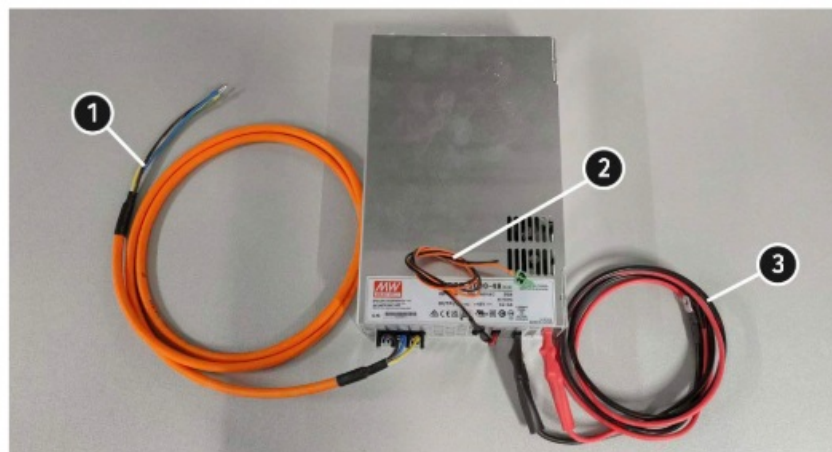
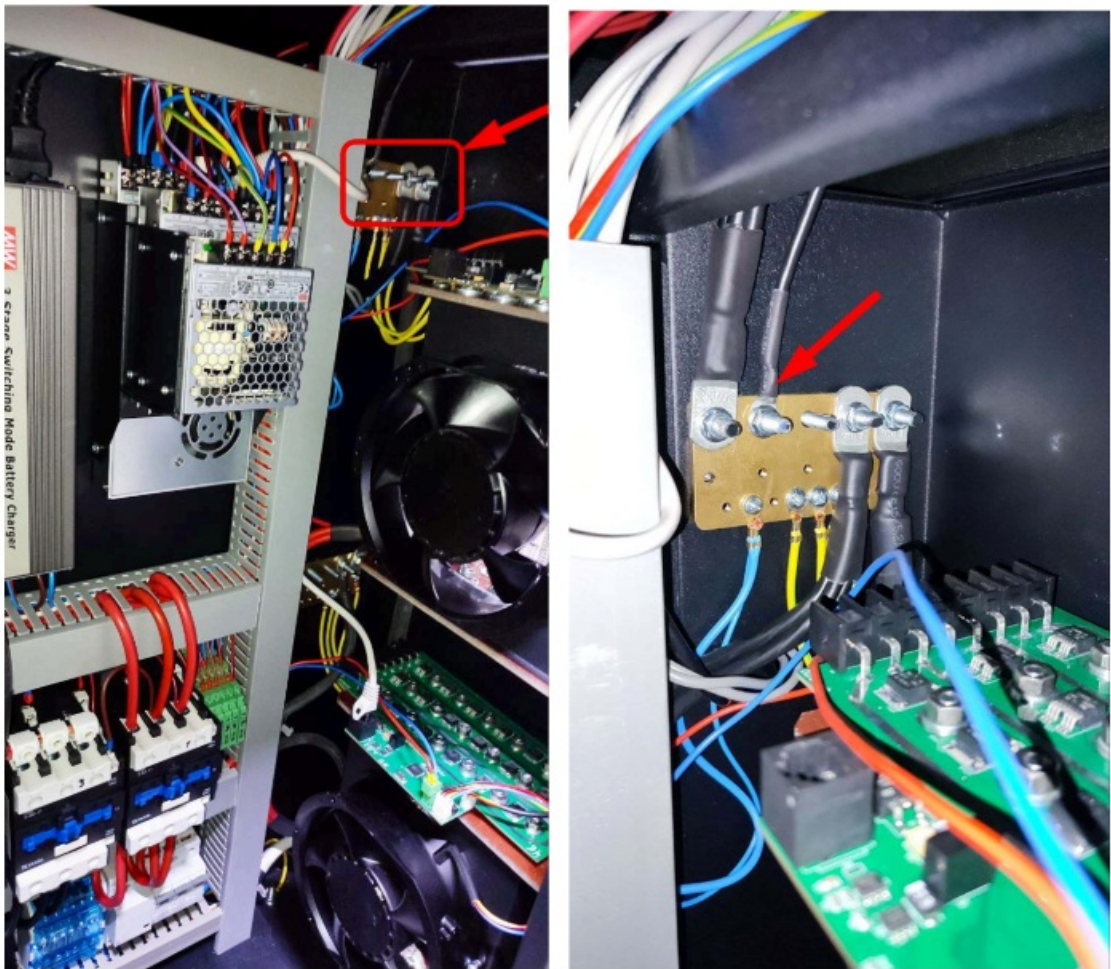
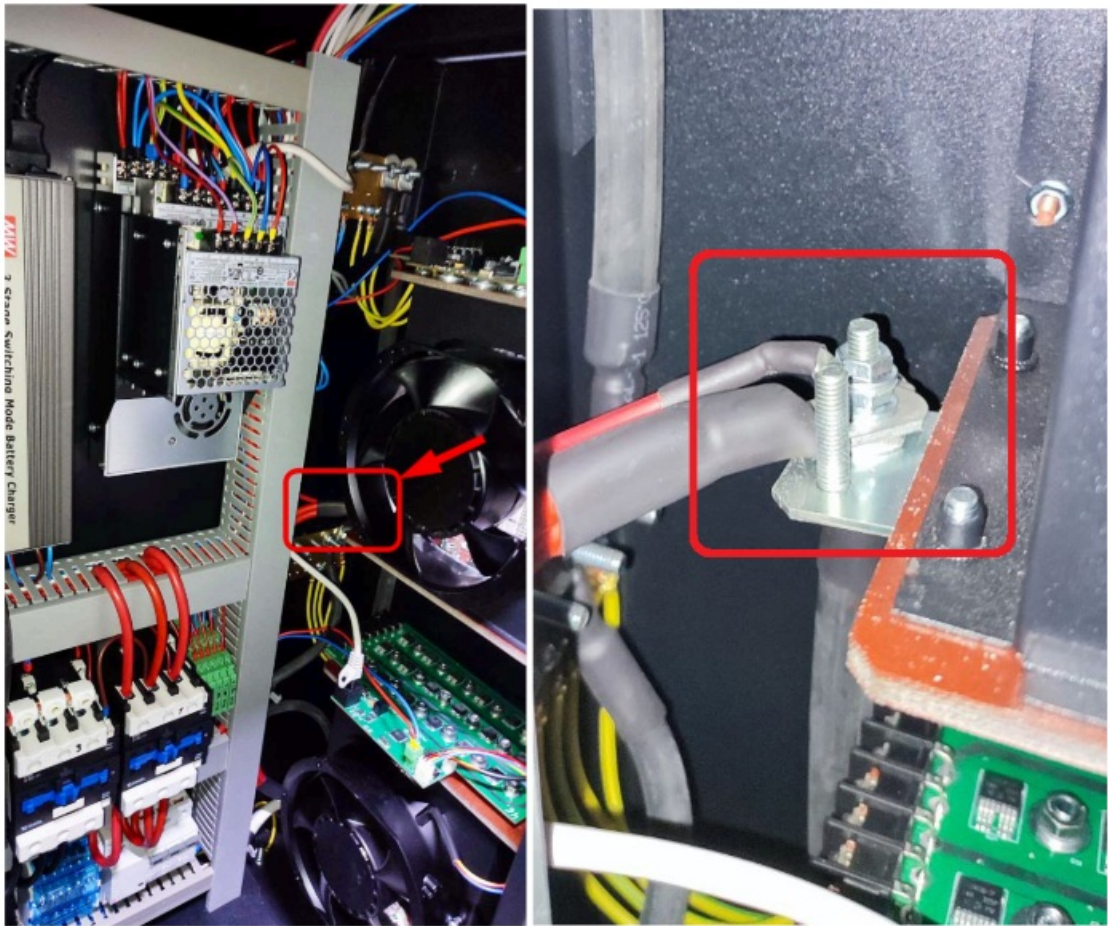
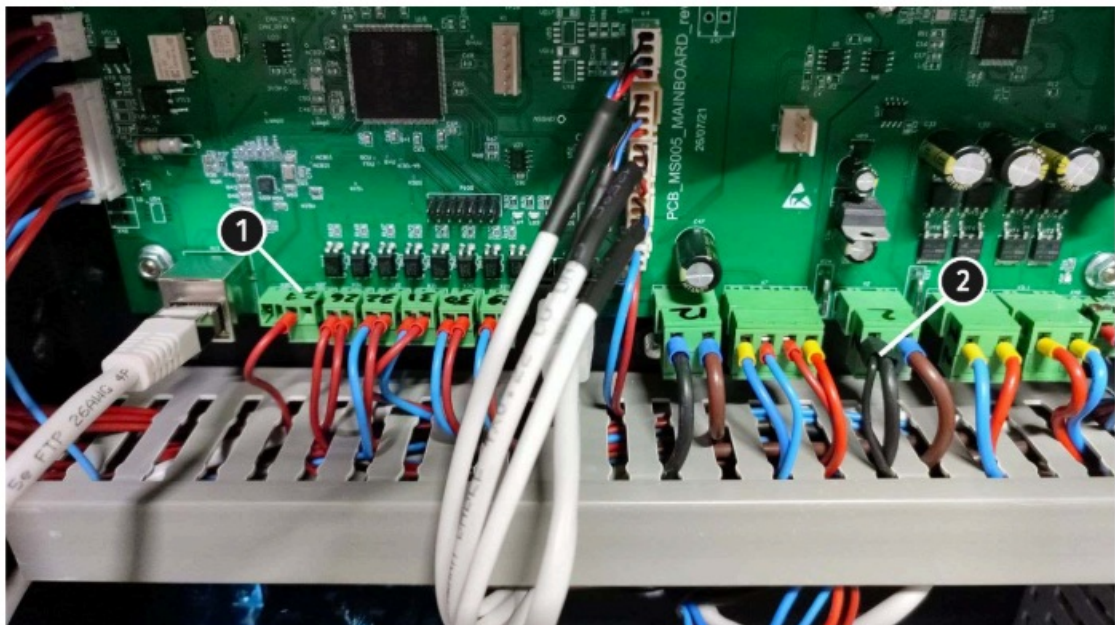

Figure 6
Figure 8
Figure 9
Figure 12
Three sets of wires are connected to the RSP-3000-48 power supply unit (see Figure 6):
2. Connect the black wire of the power supply output (item 3, Fig. 6) to the minus copper bar, see Fig. 8.
3. Connect the red wire of the power supply output (pos. 3, fig. 6) to the load block (see fig. 9).
4. Connect the power supply wires of the power supply unit (pos. 1, fig. 6) to the power terminal block (see fig. 10).
5. Connect the control wires for the power supply unit (pos. 2, fig. 6) to the main board as shown in Figure 12.